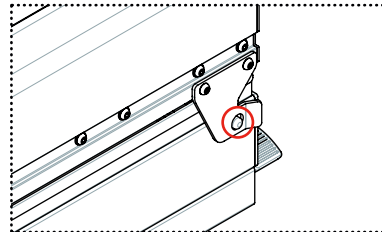

FIGURE 5
- Make sure that the hole in the locking piece of the removable rail is concentric with the shelf of the fixed rail (see Fig. 5), otherwise it could seize.